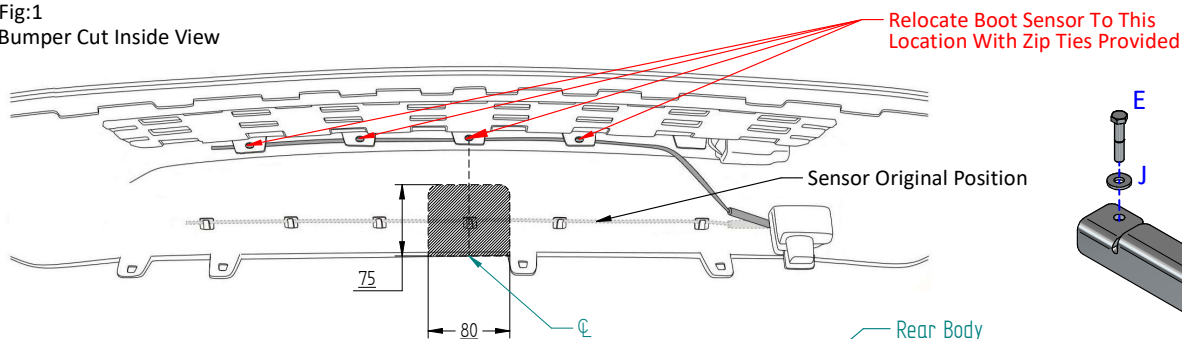

Fig:2
5. As per Fig 3 Use Item N with Items P to prevent water ingress. As per Fig 2 cut the heat shield, Note: Some models are per-cut.